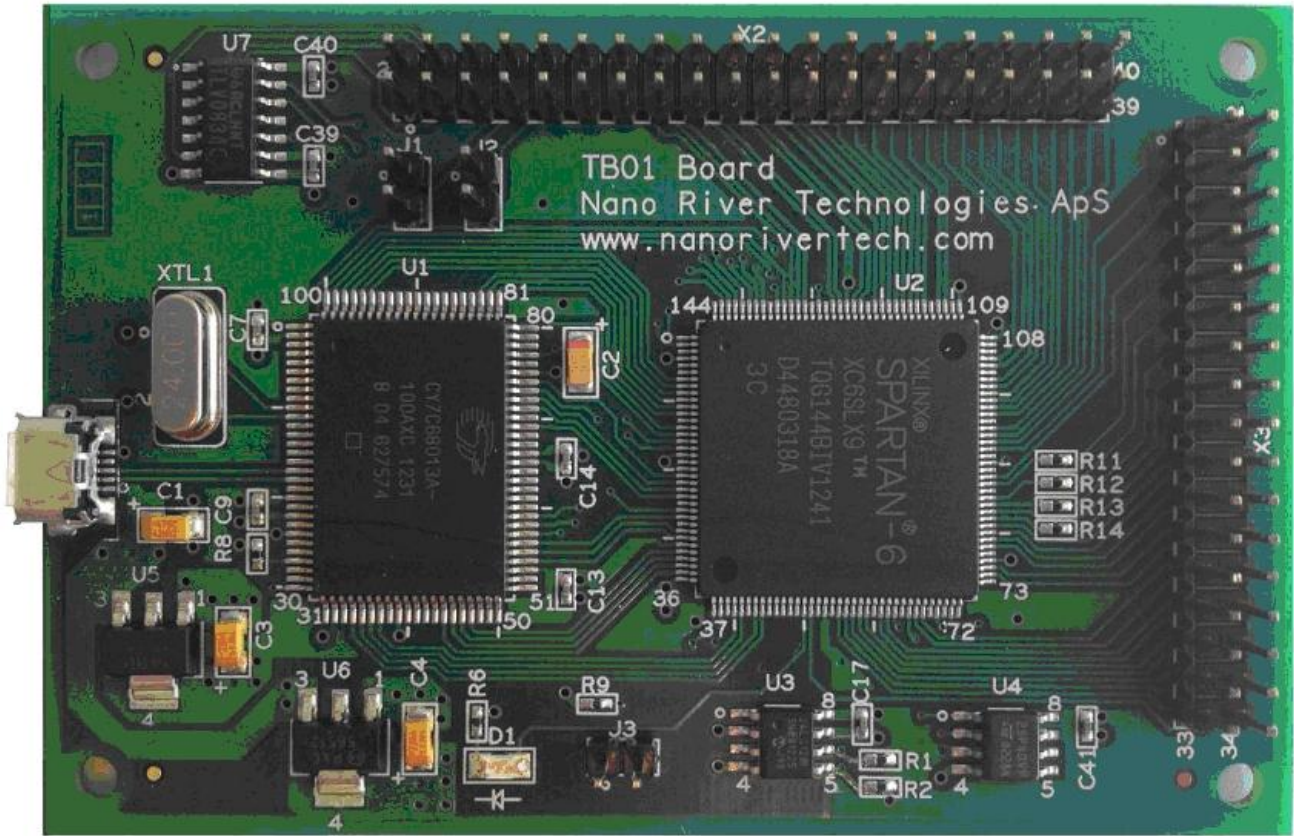

Fig. 1. Tiger Board
1. The Tiger Board shown in Fig. 1 is a universal USB-controlled Master/Slave SPI/I2C/JPIO interface. For the current application, it is configured as a 2-channel SPI interface. It includes a SPARTAN-6 FPGA with support components, a micro-USB connector, as well as a 40-pin and a 34-pin male connectors. The board measures approximately 3.2x2.4 inches. More details can be found on the Nano River Technology web site at <http://www.nanoriverteChcom/tigerboard-software.html> , specifically in the http://www.nanoriverteChcom/files/doc/TigerBoardUserGuide_ver_Nov12.pdf document.